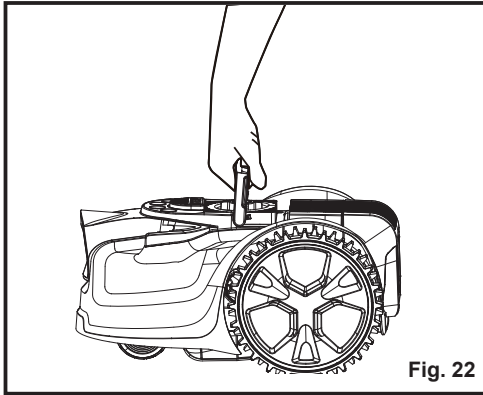

Fig. 22
3. Use the carry handle to carry the mower. Carry the mower with the blade disc away from the body (Fig. 22).